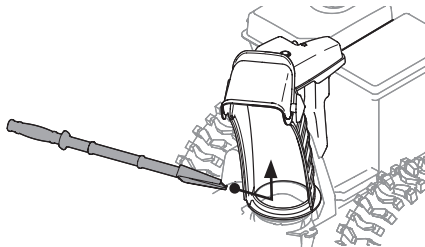

Figure 69
4. Use the shovel-shaped end of the clean-out tool to dislodge and scoop any snow and ice which has formed in and near the chute assembly. Always use the clean-out tool (Part # 931-2643), not your hands. Refer to the separate supplement for clean-out tool ordering information, if lost or damaged (Figure 69).